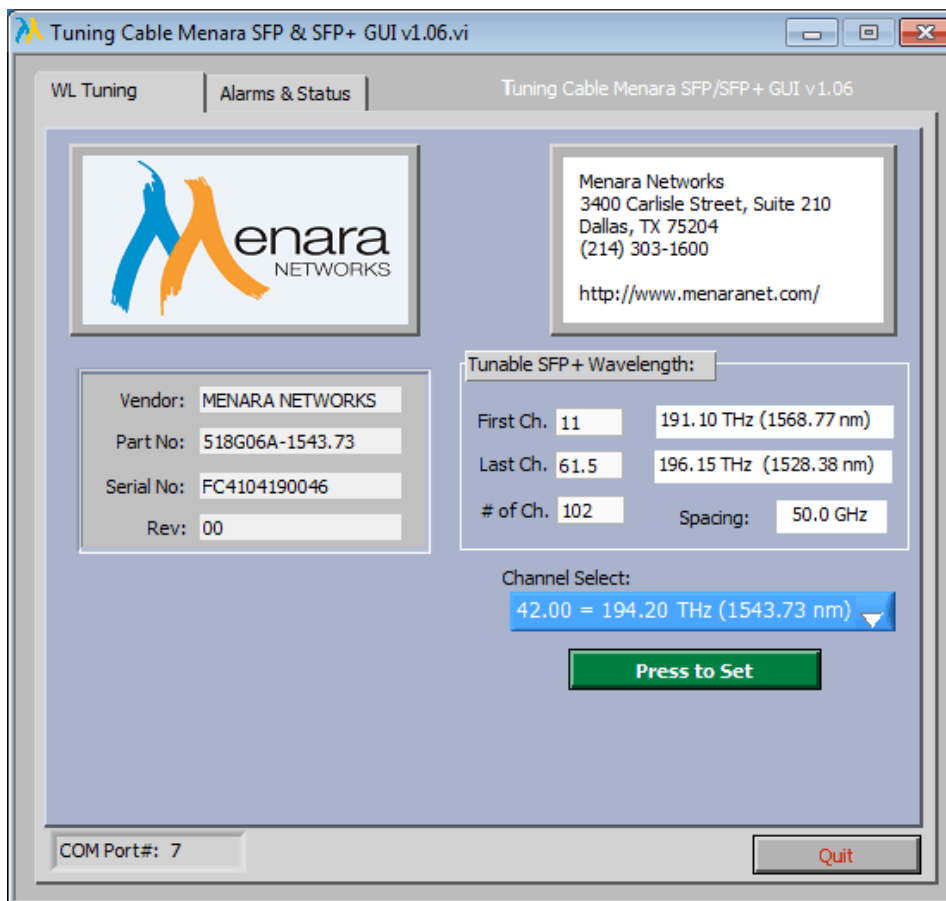

Figure 2: SFP+ Wavelength Tuning
3. Wavelength tuning can be accomplished using the WL Tuning tab as shown in Figure 2 below.